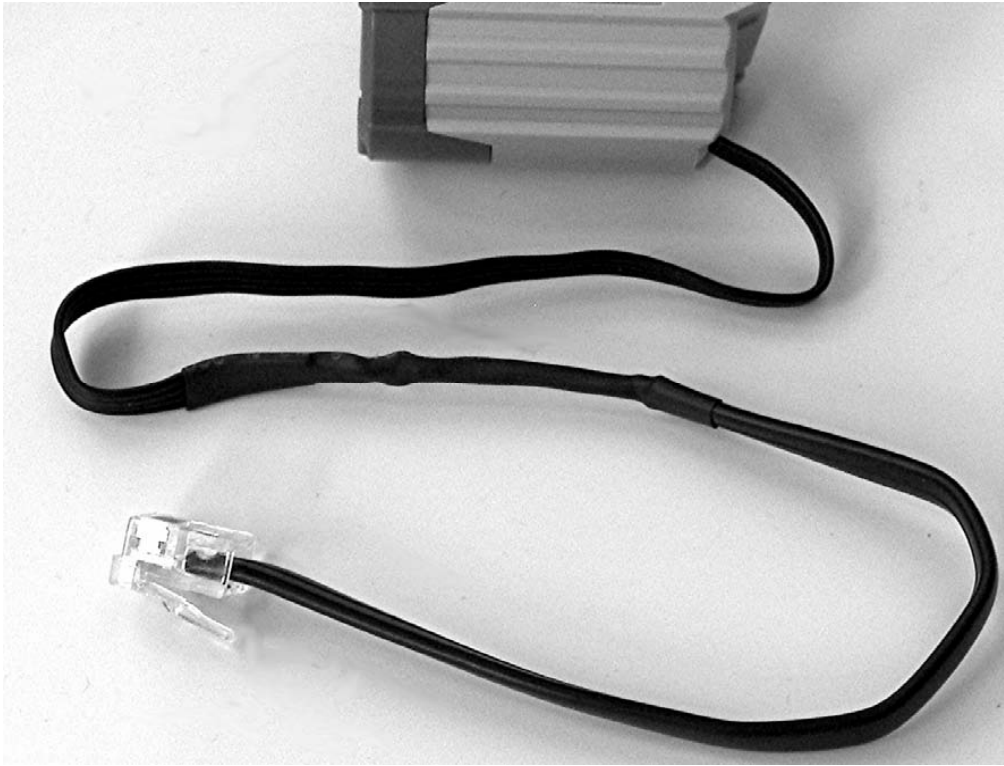

Figure 11-35. Finished Power Functions motor with NXT connector
4. Slide the small heat shrink tubes over the solder joints and apply enough heat to shrink them. Then slide the larger heat shrink over the whole splice and shrink that. When you are done, you will hardly be able to detect the connection (see Figure 11-35). If you need a longer cable to reach between the motor and the NXT, splice in a length of 18 gauge (0.8mm²) speaker wire to extend the cable.